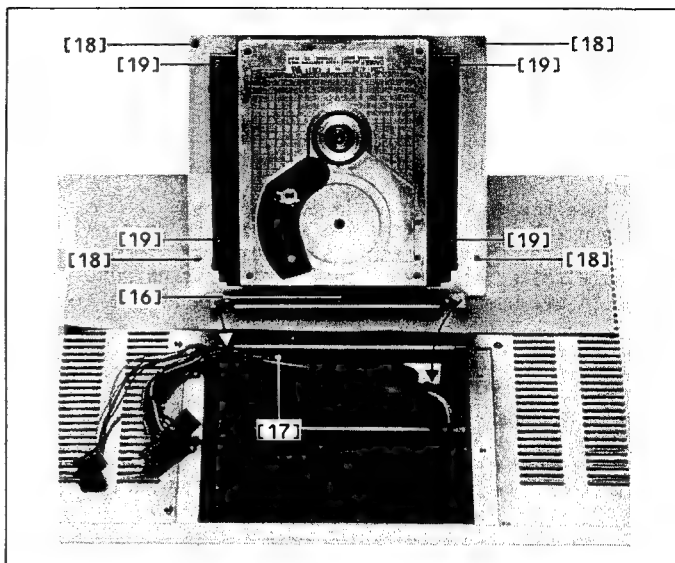

Fig. 2.6
→ Fig. 2.6
- Expose the cable harness [17] (Fig. 2.6).